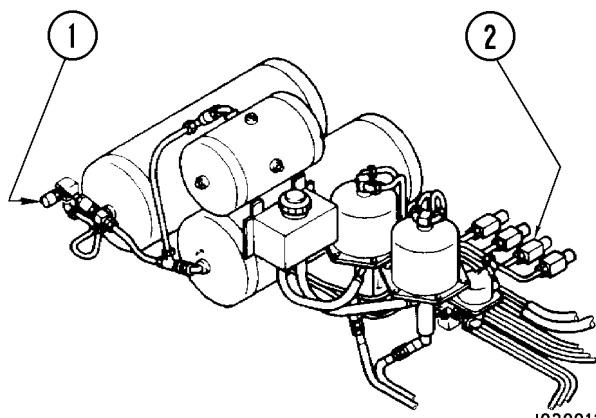

FIGURE 3-2. RELEASING EMERGENCY BRAKE
1. After making preparations to tow the machine, pull rings (2, Figure 3-2) on the 4 drain valves on the air tank. After air pressure is released, the emergency brake should release.
2. After releasing the emergency brake, release rings (2).